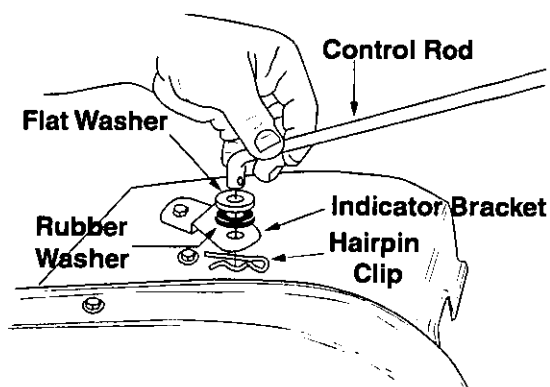

Figure 12
2. Place flat washer, then rubber washer on the hooked end of control rod. Insert end of control rod into the indicator bracket on top of the shift cover, and secure with hairpin clip. See Figure 12.